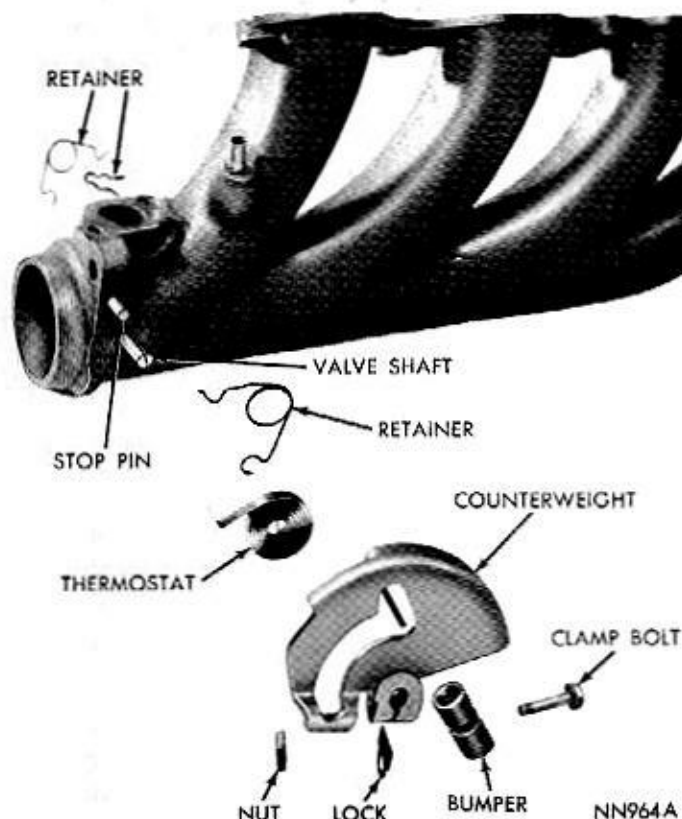

Fig. 15—Heat Control Valve—Disassembled (426 Hemi Engine)
(1) Remove counterweight from outer end of valve shaft by loosening clamp bolt (Fig. 15).
(2) Unhook thermostat from stop pin and slide from valve shaft slot.
(1) Be sure shaft retainers (Fig. 15) are in place in grooves in valve shaft and stop pins. Then, turn shaft in the extreme **counterclockwise** position.